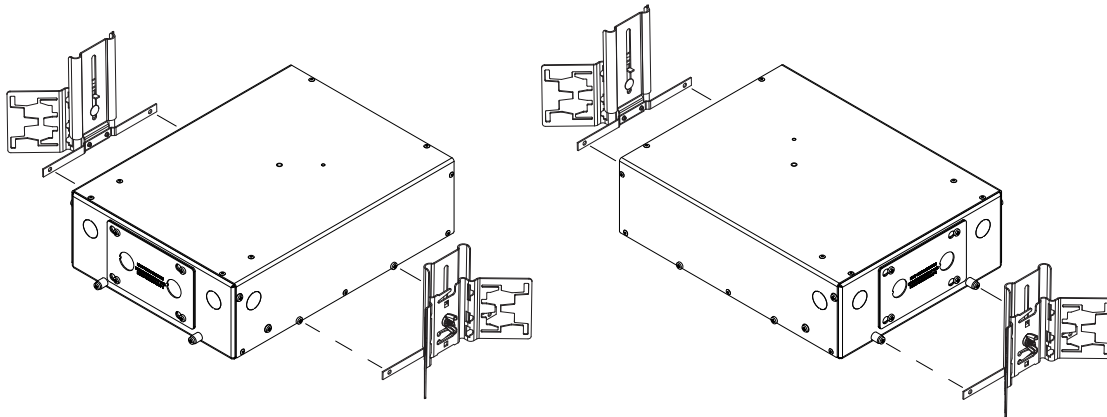

FIG 6.2 Butterfly Bracket/Housing Position
STEP 1 Attach Butterfly Brackets to either ends or sides of mounting frame using existing screws - **FIG 6.2**.